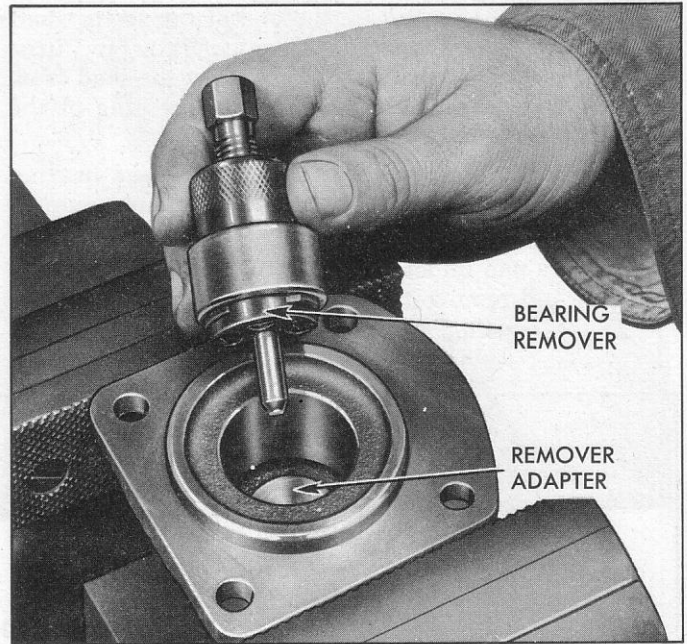

Fig. 14—Housing Side Cover Bearing Removal
Housing Side Cover Bearing (fig. 14)
2. Tighten screw in remover J-5190 and remove bearing (fig. 14).